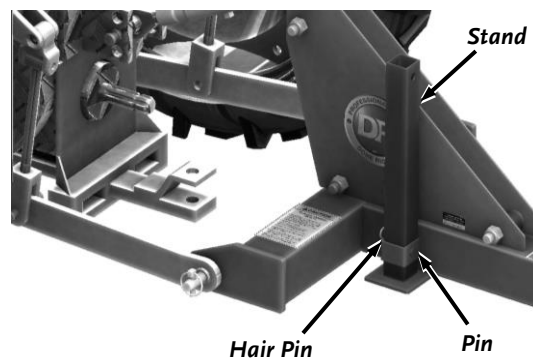

Figure 13
6. Raise the Stand to the working position and secure with the Pin and Hair Pin (**Figure 13**).